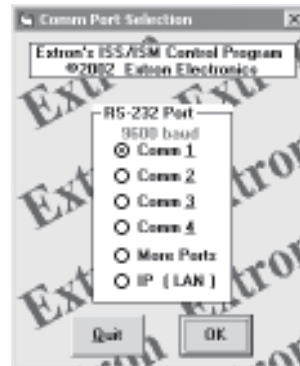

Figure 5-3 — Comm Port Selection window
1. To run the control program, click **Start > Programs > Extron Electronics > ISSISM**. The Comm menu appears on the screen (figure 5-3).